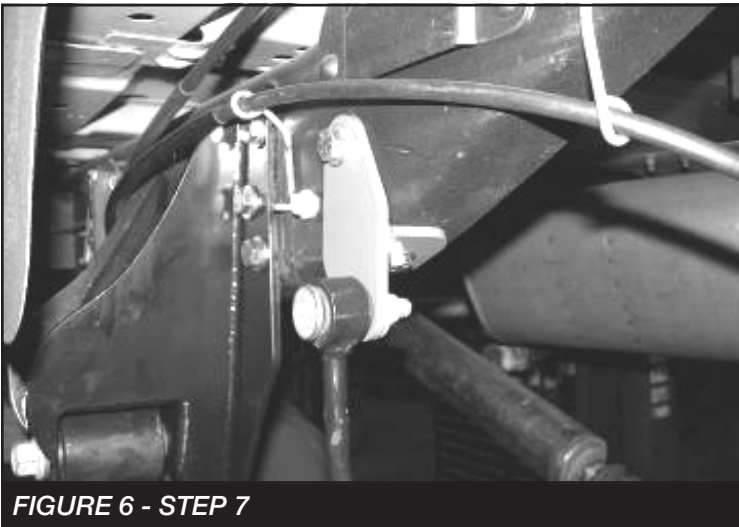

FIGURE 6 - STEP 7
7. Locate the FT30240BK (driver) and FT30241BK (pass) Rear Sway Bar Drop Brackets. Remove the factory sway bay endlinks from the frame and save the hardware. Place the drop bracket onto the frame so that the hole in the new bracket is directly above the factory hole (the longer end of the bracket goes upward and attaches to the frame). Use a paint pen or center punch to mark the center of the hole. Using a drill, drill the new hole into the frame starting with a smaller size bit and working up to the 1/2" size. Using a drill with a 3/8" bit, drill the bottom hole through the new bracket into the frame. Use the supplied 3/8" hardware and install the bolts through the bracket into the frame, torque to 30 ft. lbs. Install the end link into the bottom of the new drop bracket with the factory hardware and torque to 50 ft. lbs. **SEE FIGURE 6**